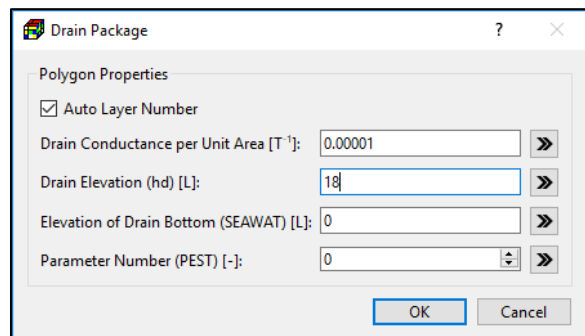

Figure 17. The Drain Package dialog box
- Most dialog boxes for the polygon data entry contain **»»** buttons next to the data entry fields. Figure 17, for example, shows the Drain Package dialog box with the **»»** buttons. You may click the **»»** button next to a parameter to replace the data of the cells located within the polygon with that parameter value. For packages⁸ that support multiple instances of package-specific features in a cell, such as the Well Package, the **»»** buttons only act on existing instances.